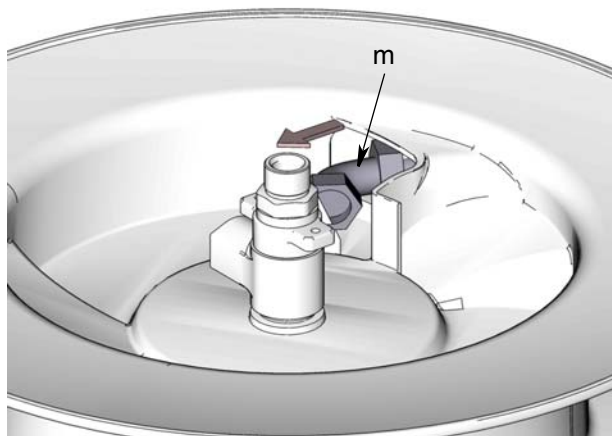

FIG. 17
1. Insert elbow fitting (m) end of hose through opening in spool (FIG. 17).